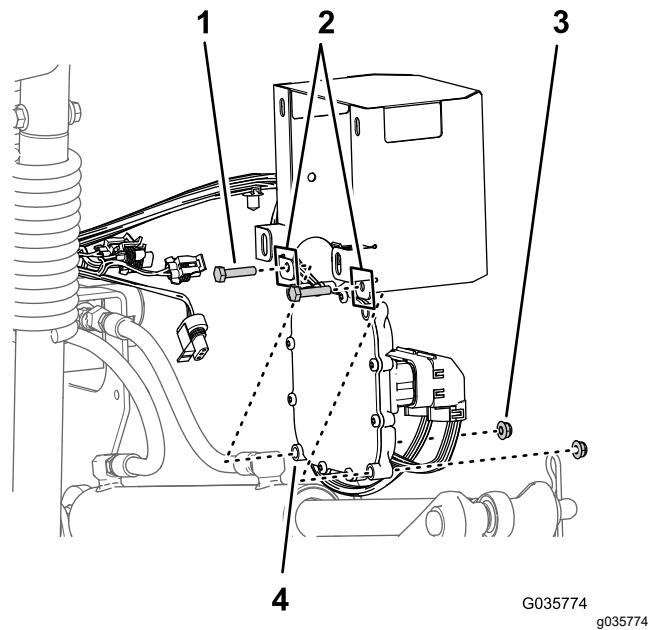

Figure 16
2. Assemble the controller to the cover with 2 bolts (1/4 x 1-1/8 inches) and 2 flange locknuts (1/4 inch) as shown in Figure 16.
1. Align the electronic controller to the interior of the controller cover with the lower outboard mounting holes of the controller aligned with the holes in the lower rear flange of the cover (Figure 16)